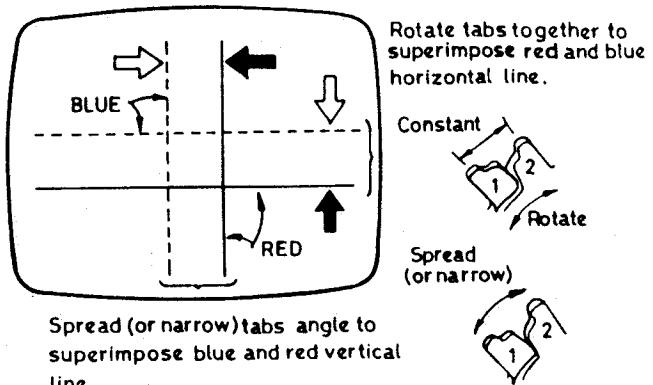

Figure 1. BLUE AND RED LINE MOVEMENT
1. Tune receiver to colour bar pattern (see Fig 1).
Receive colour bar pattern. (See Fig. 1)
2. To superimpose the red/blue vert. lines, spread (or narrow) the angle of magnet tab 1 between tab 2. See Fig. 1.
3. To superimpose the red/blue horiz. lines, rotate the magnet tabs 1 and 2 together (keeping the angle of magnet tabs 1 and 2). See Fig. 1.